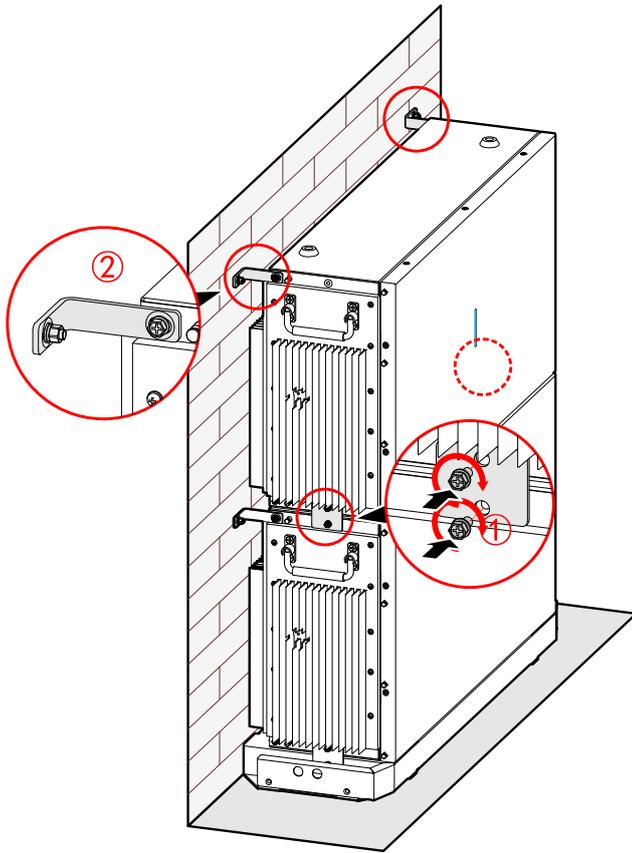

Figure3-23 Fix the battery pack
4. Fix the battery pack, as shown in Figure3-23.